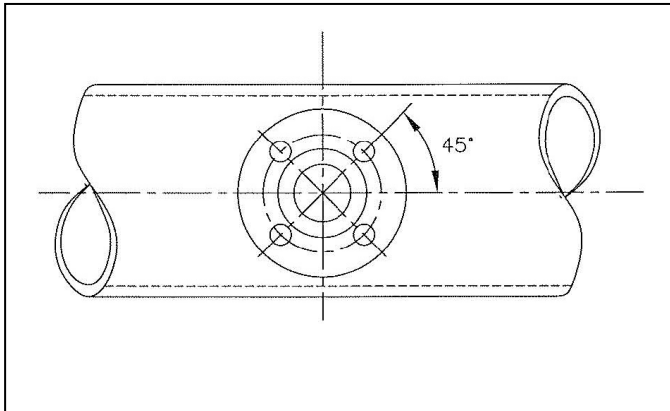

Fig. 11
2. Tack the mounting stud onto the pipe leaving a clearance of 1-2 mm. The bolt holes of the flange must be at 45° angles to the pipe axis (see Fig. 11).